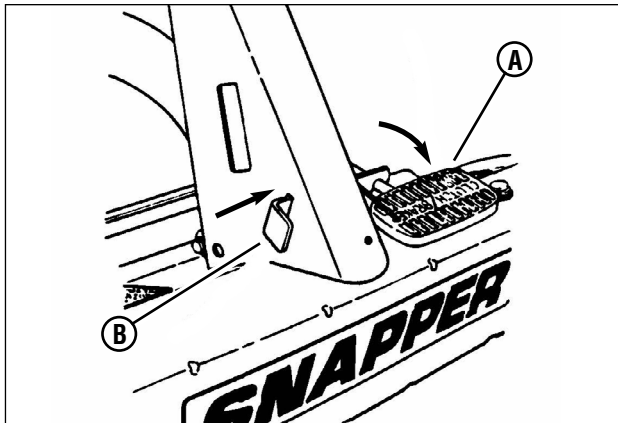

Figure 39: Setting the park brake
4. Depress the clutch/brake pedal (A, Figure 39) all the way down. Move and hold the park brake lever (B) in the "ON" position and release the clutch/brake pedal to set the park brake.